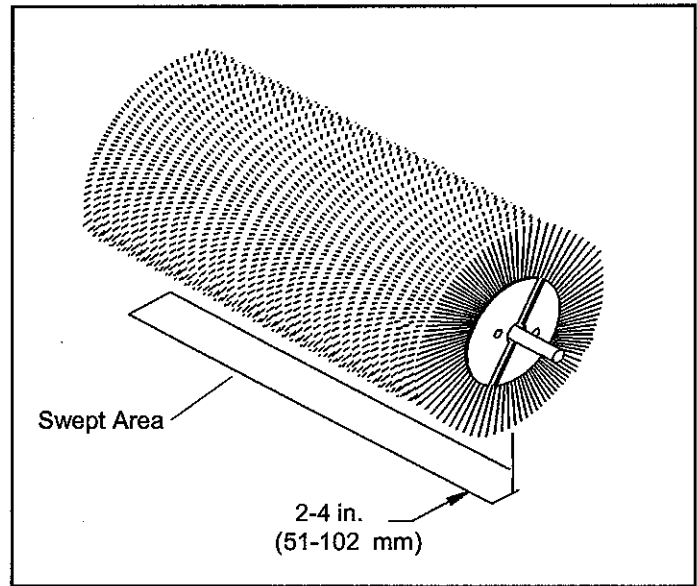

Figure 7
4. Raise the sweeper and back away; switch off the engine and remove the key. The brush pattern left in the dust should be 2-4 inches (51-102 mm) wide, running the length of the brush. (Compare the swept area with figure 7.)